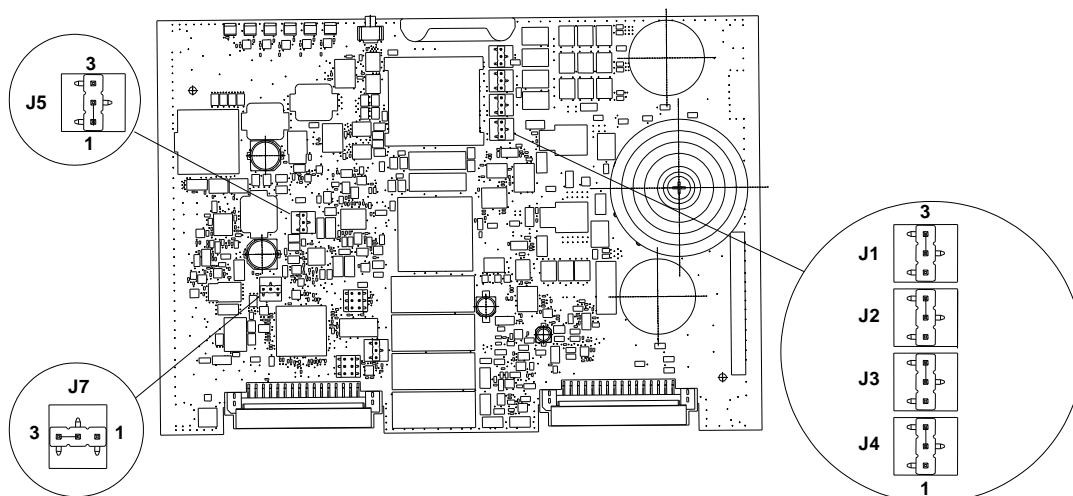

Figure 2
Before installing the VCI2001-U1 Amplifier Card into the VCA2002-A1 Card Cage, set the jumpers on the card according to Table 1. See Figure 2 for the jumper locations. Figure 2 illustrates the jumper positions for the 70V configuration (J1 through J4 and J7) with Low Frequency Cutoff not required (US) (J5).